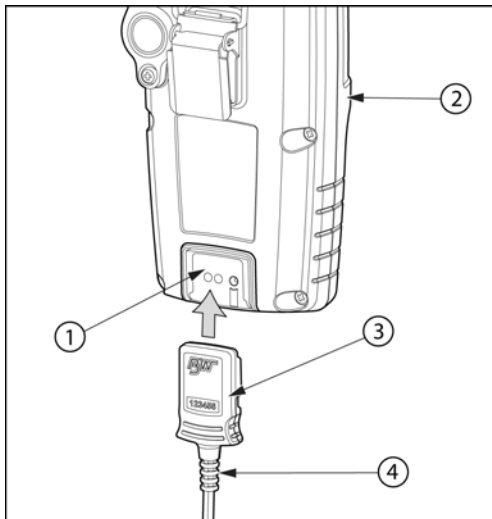

Figure 8. Connecting the Charger Adapter
To charge the battery, refer to Figure 8., Table 11. and the following procedures:
3. Attach the charging adapter (Figure 8.) to the charger interface.